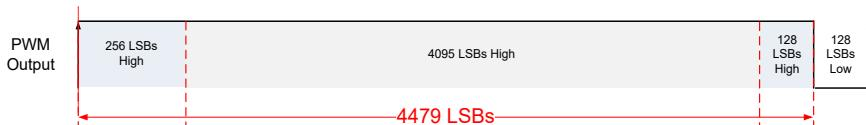

Figure 35. 12-bit PWM Signal in Diagnostics High Mode
- Diagnostic high mode, see Figure 35 and Figure 37